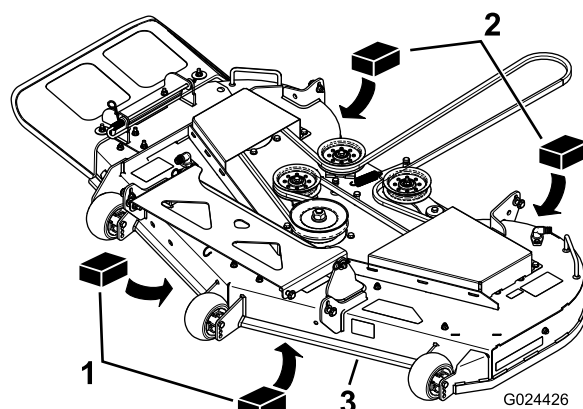

Figure 63
3. Place two 6.66 cm (2-5/8 inch) blocks under each side of the front edge of the deck, but not under the anti-scalp roller brackets (Figure 63).
4. Place two 7.30 cm (2-7/8 inch) thick blocks under the rear edge of the cutting deck skirt; one on each side of the cutting deck (Figure 63).